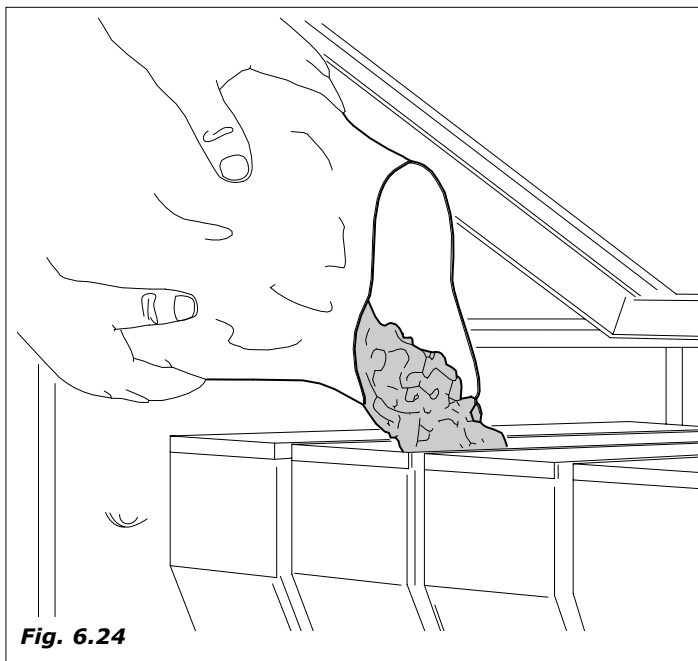
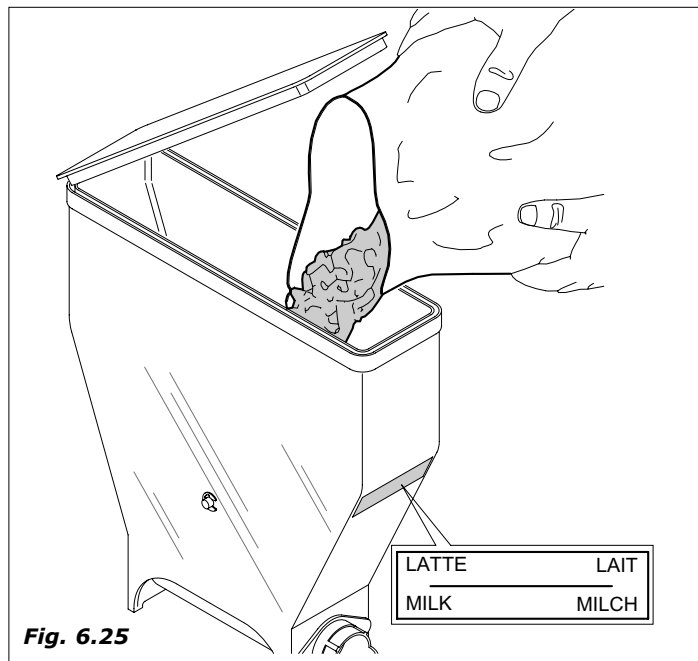

Fig. 6.24
Fig. 6.25
- remove the covers of each container and load the product according to the product indicated on the label (Fig.6.24-Fig.6.25).